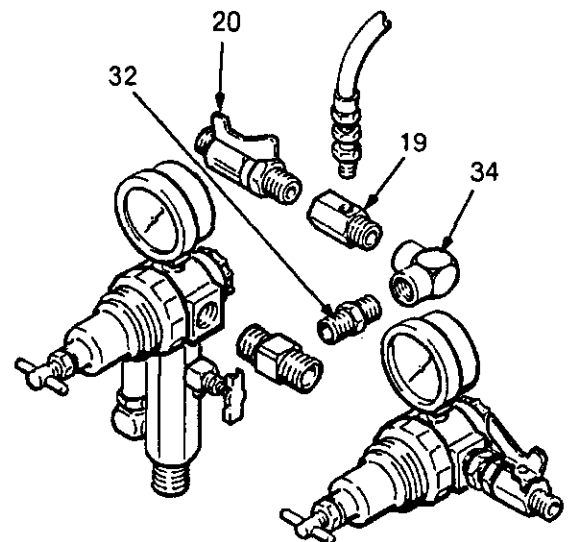

Fig 4
Turn the elbow back just enough to permit the manifold (19) and the ball valve (20) to be screwed into the elbow (34). See Fig 4. Connect the agitator hose between the agitator motor and the air manifold.